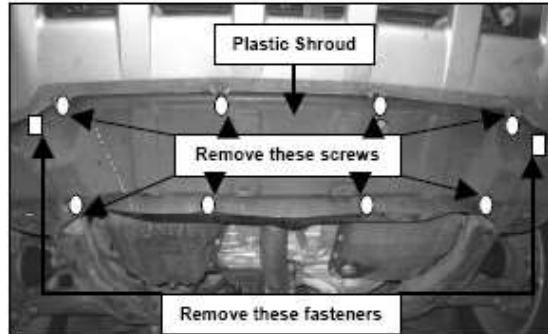

Figure 2
2. Carefully remove the plastic shroud underneath the vehicle by removing the (4) screws on top, (4) screws on bottom, and (1) fastener on each side (Figure 2).